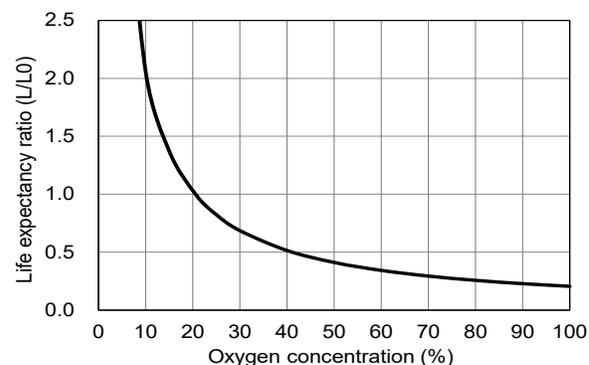

Fig. 8a - Relationship of life expectancy vs. O₂ concentration (Lo = life at 20.9% O₂)
Figure 8a shows the relationship between life expectancy and O₂ concentration for KE-LF sensors. The Y-axis indicates the ratio of life expectancy in a given O₂ concentration (L) to life expectancy in natural air (Lo). The greater the O₂ concentration, the shorter the life expectancy. The influence of atmospheric pressure on life expectancy is estimated based on the O₂ concentration in a given atmospheric pressure.